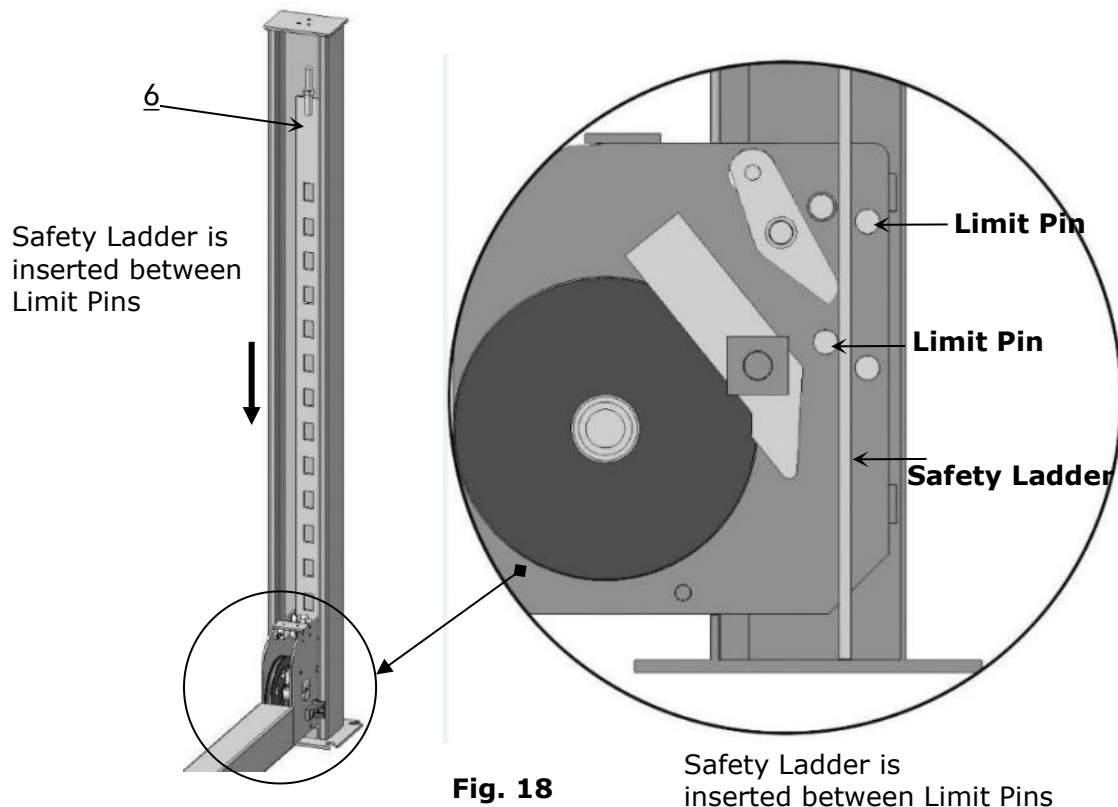

Fig. 18
1. Take off the pulley safety cover and unscrew the four upper nuts of the Safety Ladders, and then adjust the four lower nuts to be at the same position. Withdraw the Slack-cable safety lock of the Cross-beam to insert the Safety Ladder in, raise the Safety Ladder, and screw the upper nuts (See Fig. 18).